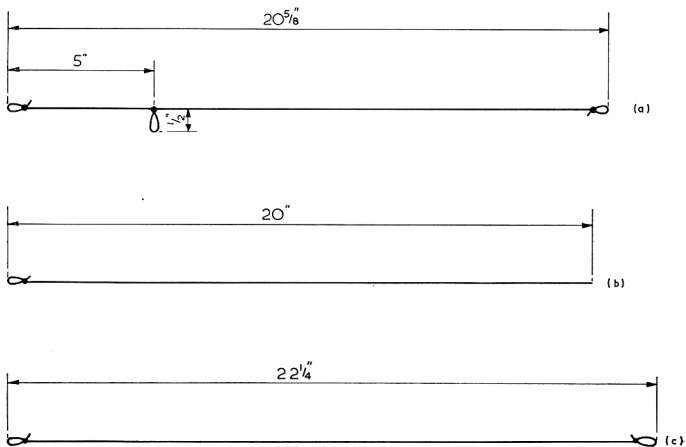

Fig. 2.
1. Make up three cords as shown in Figure 2. The dimensions given are those when the cords are taut.